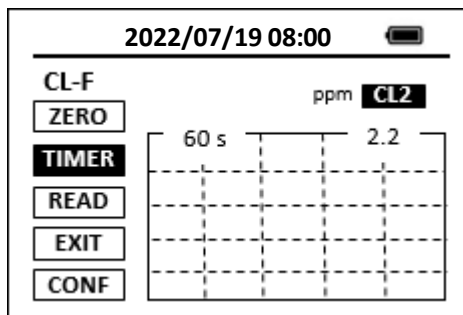

Figure 11. Single Timer Method
Most of colorimetric methods have only one timing step. As an example, in the DPD free chlorine method, it takes one minute for the DPD powder reagent to completely react with chlorine in the water sample. The DPD free chlorine method has a single one-minute timing step. Figure 11 shows the main page of a method with a single timing step.
1. Place the sample vial filled with the water sample in the AP50MM sample vial compartment and press the **ZERO** button. The AP50MM will display the page shown in Figure 11.